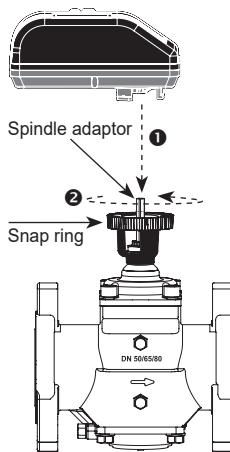

Figure 2
① Then place the actuator on the spindle adaptor and place the three actuator "legs" into the three holes in the mounting bracket (figure 2 and 3). Make sure that the snap ring is clicked onto the mounting bracket, so that the snap ring is locked at the top of the mounting bracket, but still able to rotate. ② Then finger-turn the snap ring counter clockwise (upside view) approximately 1/6 of a turn until its stop points touch the actuator "legs" and the mounting is lock with a (MSMall) click. Do not use additional tools.